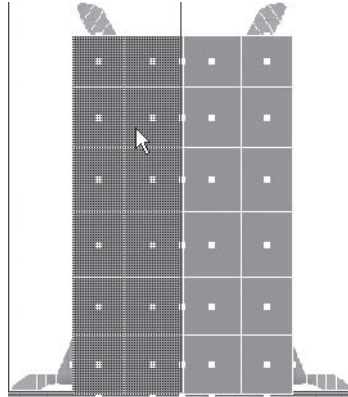

FIGURE 3.59 Selected faces of the sack on the left side of the grid.
27. Select all the faces of the sack on the left side of the axis grid, as shown in Figure 3.59.